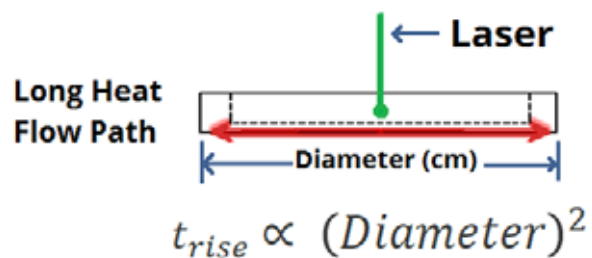

Figure 2-10. Traditional Thermopile – Long Heat Flow Path
- The heat then flows across the width of the thermopile disk to the heat sink, which is held at a near constant ambient temperature by either air or water cooling, as shown in Figure 2-10.